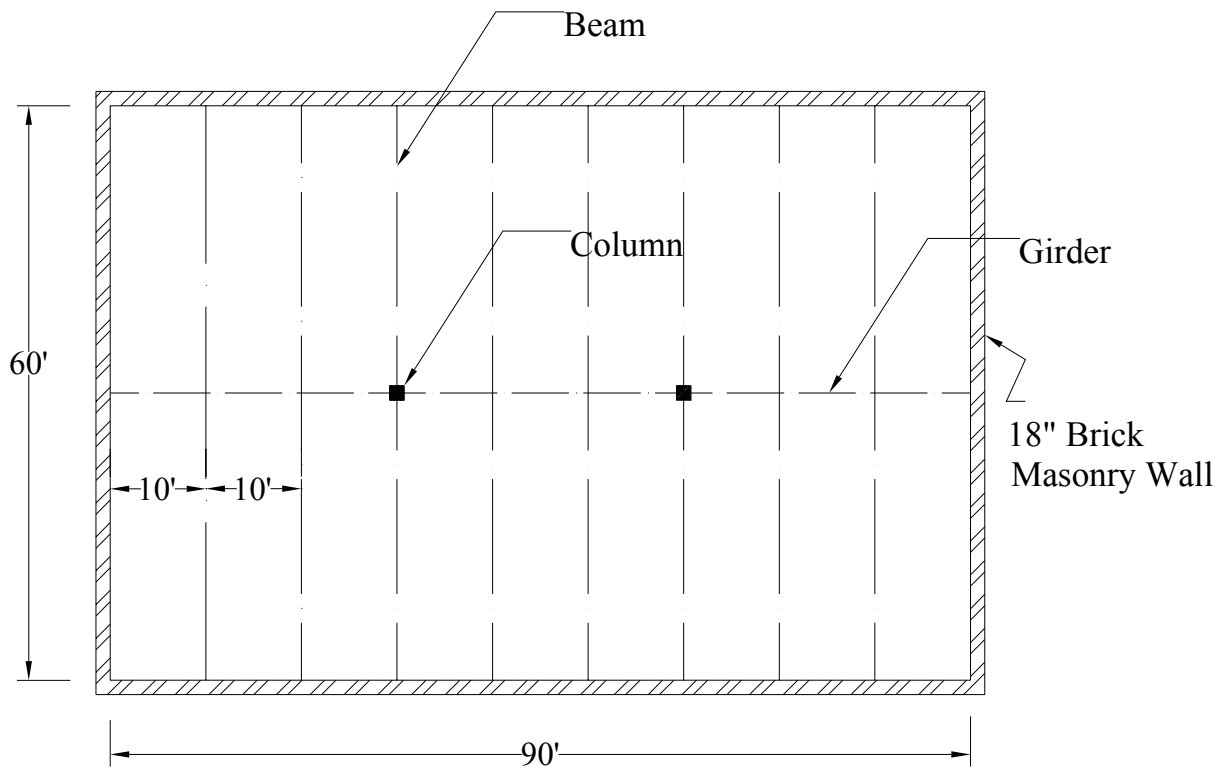

Figure 2: Structural Arrangement.
**Second option for structural arrangement of the 90' × 60' Hall, figure 2:**